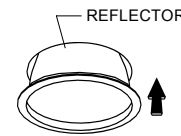

FIG. 7
2. Push the reflector into the ceiling. (Fig. 7)
3. Connect the ground lead. (Fig.7)
4. Connect the white leads (NEUTRAL) together, and the black leads (120V) together. (Fig.7)